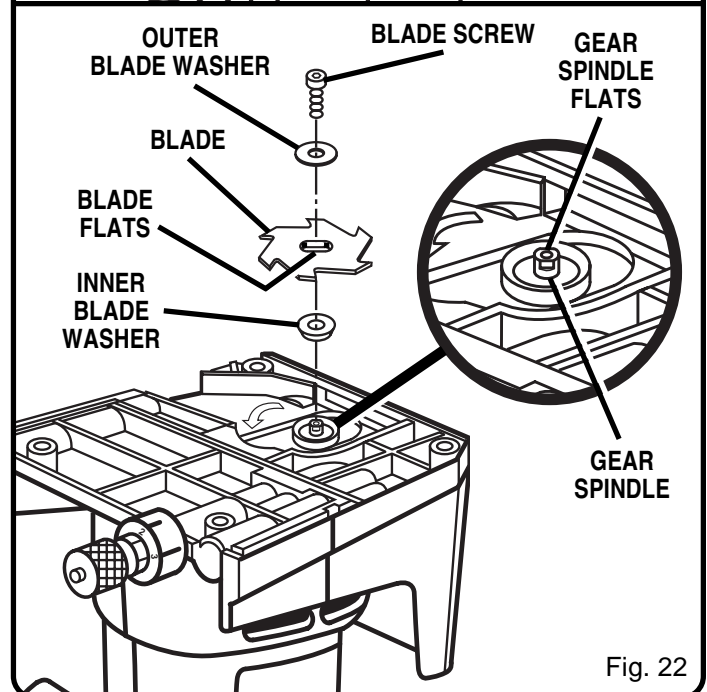

Fig. 22
**NOTE:** Turn blade screw counterclockwise to remove. See Figure 22.
- Place inner blade washer on gear spindle. See Figure 22.